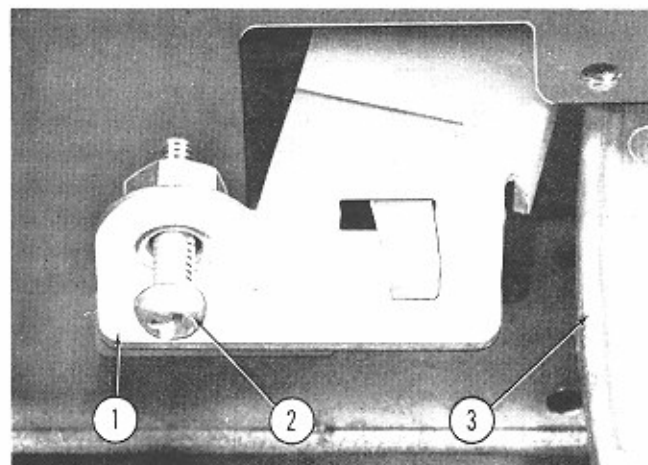
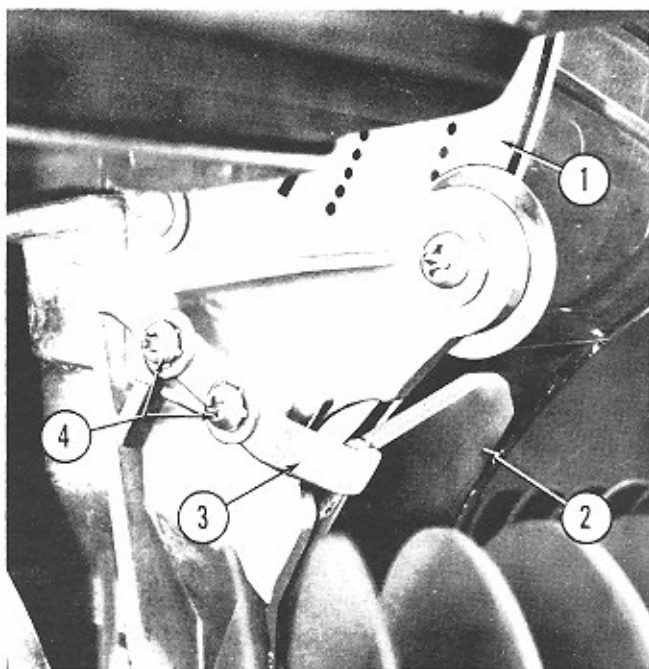

Fig. 64. RECORD LIFT ARM SETTING
Fig. 65. RECORD STOP BRACKET ADJUSTMENT
(4) The lift arms should now be properly positioned by adjusting the "bracket and roller assemblies" at their elongated mounting holes. The lift arms should be down, the pivot pin (shaft) of the guide tips in the slots of the adjusting plates, and the center line of lift arms must be equally displaced to the rear of the radial line from the main center support casting. The position described above has been established during assembly by means of a fixture to provide displacement of 0° - 54' for each lift arm. This position is scribe marked on the mounting plate for the bracket and roller assembly and on the bracket for the adjustable plate.
k. Record Lift Arm Setting. (Fig. 64)
Each record lift arm is equipped with a bracket, stop nut and screw assembly (Item 1, Fig. 64). The adjusting screw (Item 2) stops against the under side of the mounting plate to control the height to which the record lift arm may be raised. The height at which the adjusting screw stops the lift arm is determined by the lift action necessary to properly position the record for turntable handling. Due to the combined effect of both the "record stop" (See Item 2, Fig. 65) and the record lift arm, it will be necessary to adjust the record stop before proceeding with the record lift arm setting. These two adjustments may be accomplished as follows:
(2) Loosen the two screws (Item 4, Fig. 65) that hold each record stop bracket.
(3) Move the stop bracket (Item 3) until the record track rests lightly against the outside edge of the record disc (X42226).